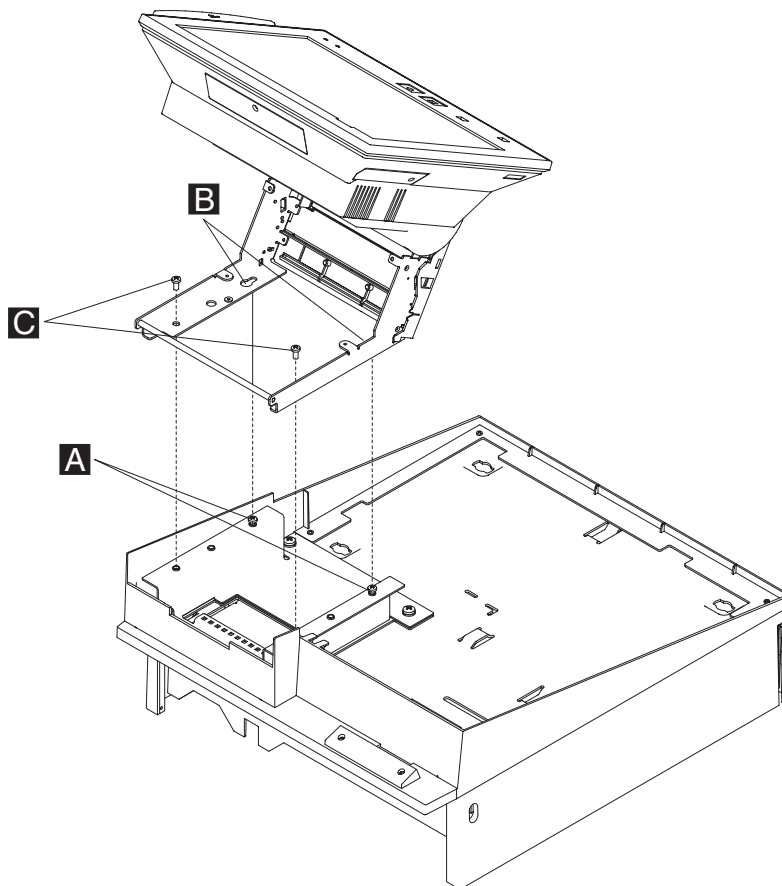

Figure 42. Removing the SurePOS 500/600 from the integration tray
7. To remove the **SurePOS 500/600** from the keyboard integration tray, see Figure 42 for callout locations and perform the following steps:
- a. Loosen the two screws **A** that are located through the SurePOS 500/600 base bracket interlocking keyholes **B**, as shown in Figure 42.